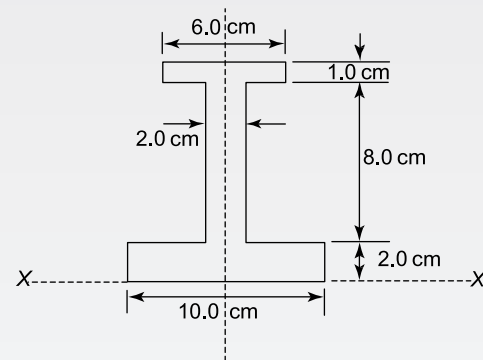

Figure RT3.3
- A beam of length 4 m is simply supported at its right extremity and at 1 m from the left extremity. If the beam is loaded with a downward load of 2 kN at its left extremity and with another downward load of 10 kN at a distance of 1 m from its right extremity, sketch its bending moment and shearing force diagrams. (7)
- (a) Find the second moment of area and radius of gyration about the axis XX for the beam section shown in Figure RT3.3.